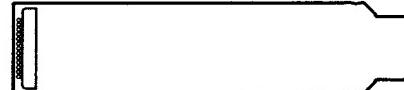

Fig. 1-8
- Flexible Cable (Part Number: YWV0EA0290AN 1 piece) for between Drive Board and Sensor Board as shown in Fig. 1-8.